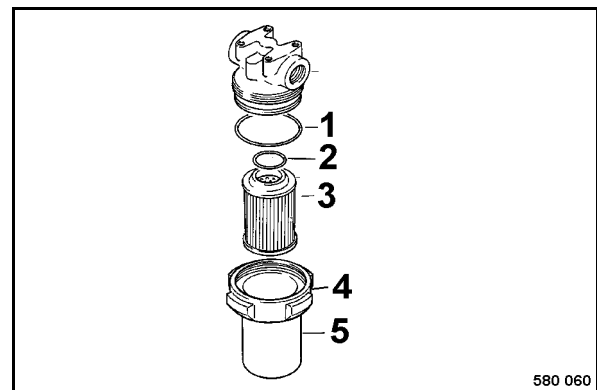

Fig. 183
- Unscrew the cap nut 4 (Fig. 183) and take the filter bowl (5) with the filter element (3) off.